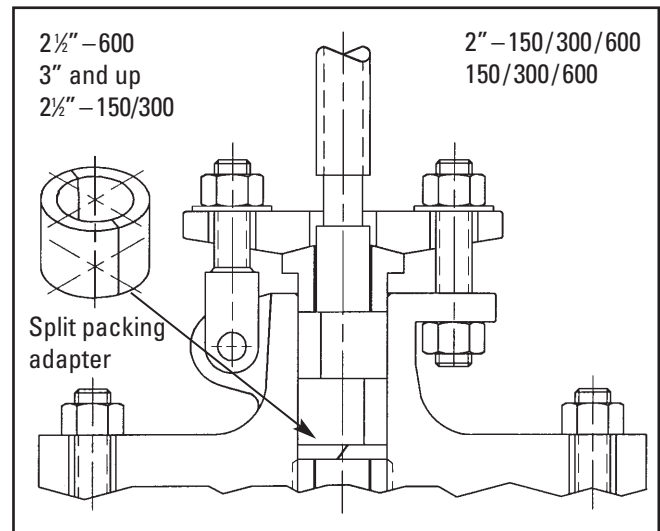

Figure 5.1H Split packing adapter
3. Insert the split packing adapter (*Fig. 5.1H*). Push the packing rings to the bottom of the chamber, making sure that the lap joint is not reversed during the operation.
5. Remove the nuts and split packing adapters (*Fig. 5.1H*), insert the next graphite ribbon packing and repeat the procedure above until all intermediate graphite ribbon packings have been torqued.